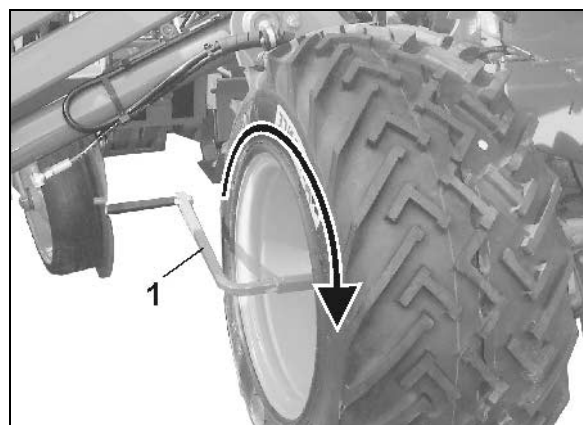

Fig. 25
6. Insert the calibration crank into the shaft (Fig. 25/1) on the right hand drive wheel.